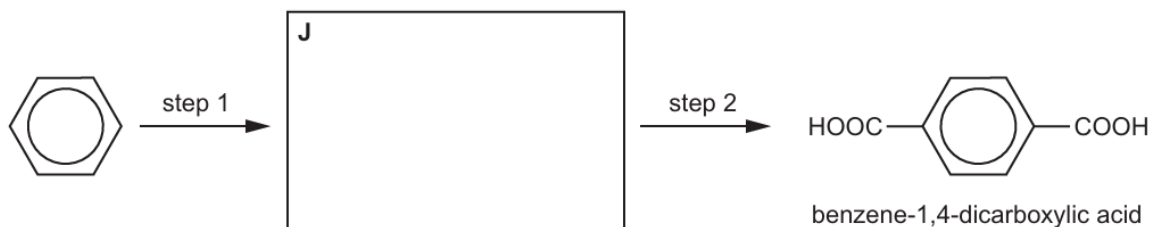

Fig. 6.2
- (d) Benzene-1,4-dicarboxylic acid, HOOC-C₆H₄-COOH, can be made from benzene, C₆H₆, in two steps as shown in Fig. 6.2.